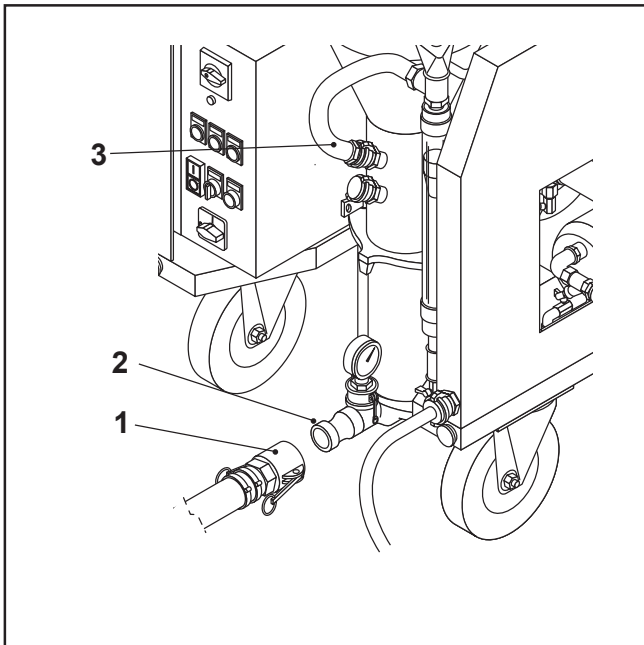

FIG.09
- Connect the material hoses (FIG. 09-REF.1) to the delivery flange (FIG. 09-REF.2).
- Connect the water hose to the quick coupling (FIG. 09-REF.3) on the mixing chamber. It is usually connected to the top connection.